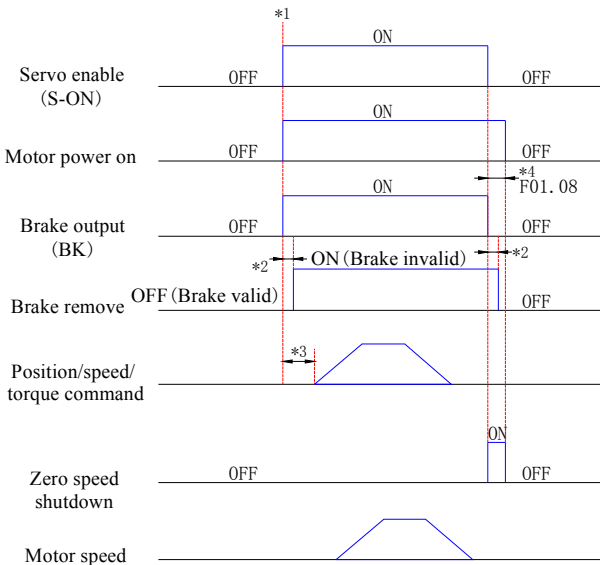

Fig.4-17 Brake timing diagram when the servo motor is at rest
The connector of the motor brake has no polarity. Customers needs to prepare 24 V external power supply. The standard wiring of the brake signal (BK) and motor brake power supply as show in Fig. 4-17: